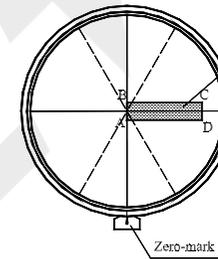

Fig.10
--Adjust the work piece parallel with the measuring axis. (See Fig.10) BC is parallel with X axis.